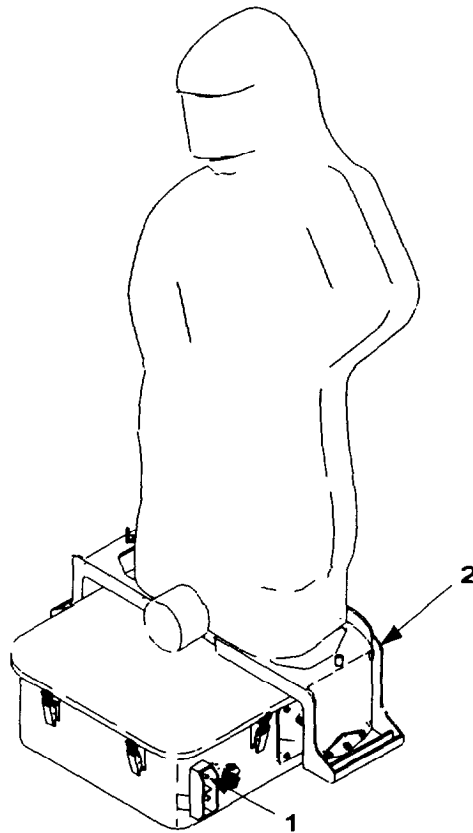

Figure 2-11. ITM Self-Test.
b. **ITM Self-Test.** Perform the following test procedures to determine whether the ITM is operating correctly. Refer to figure 2-11.